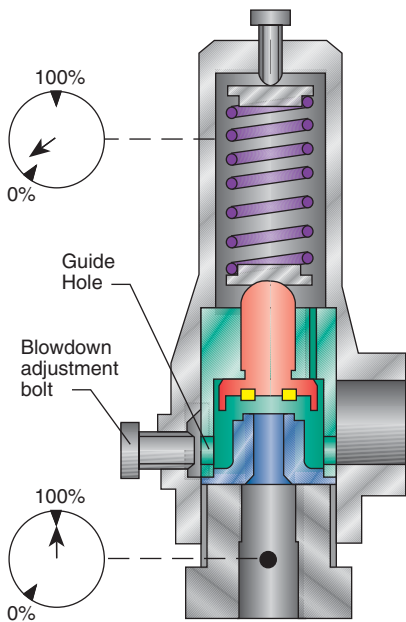

Figure 4
3. At set pressure, the initial flow across the seat is exposed to the additional area of the spindle skirt, which generates additional lifting forces. At this opening instant, the pressure in the inner chamber is greater than the pressure in the spring chamber. This is due to the restricted annular area between the spindle and the guide. This increased force rapidly accelerates the spindle to its full open position (see Figure 4, page 47).
4. After the spindle has lifted, a developed back pressure will be present in the spring chamber. This is due to the pressure drop across the secondary orifice. This pressure then acts down against the area of the spindle, as a supplemental force to assist the spring in closing the spindle (see Figure 4, page 47).
5. This pressure in turn can be adjusted externally with a threaded bolt, which partially restricts one of the guide holes. This adjustment varies the amount of developed back pressure in the spring chamber (see Figure 4, page 47) and controls blowdown, independently of set pressure.
Complete restriction of the flow through one of these guide holes by the blow-down adjustment will not affect capacity since the back pressure will never exceed 50 percent of the inlet pressure (see Figure 4, page 47).